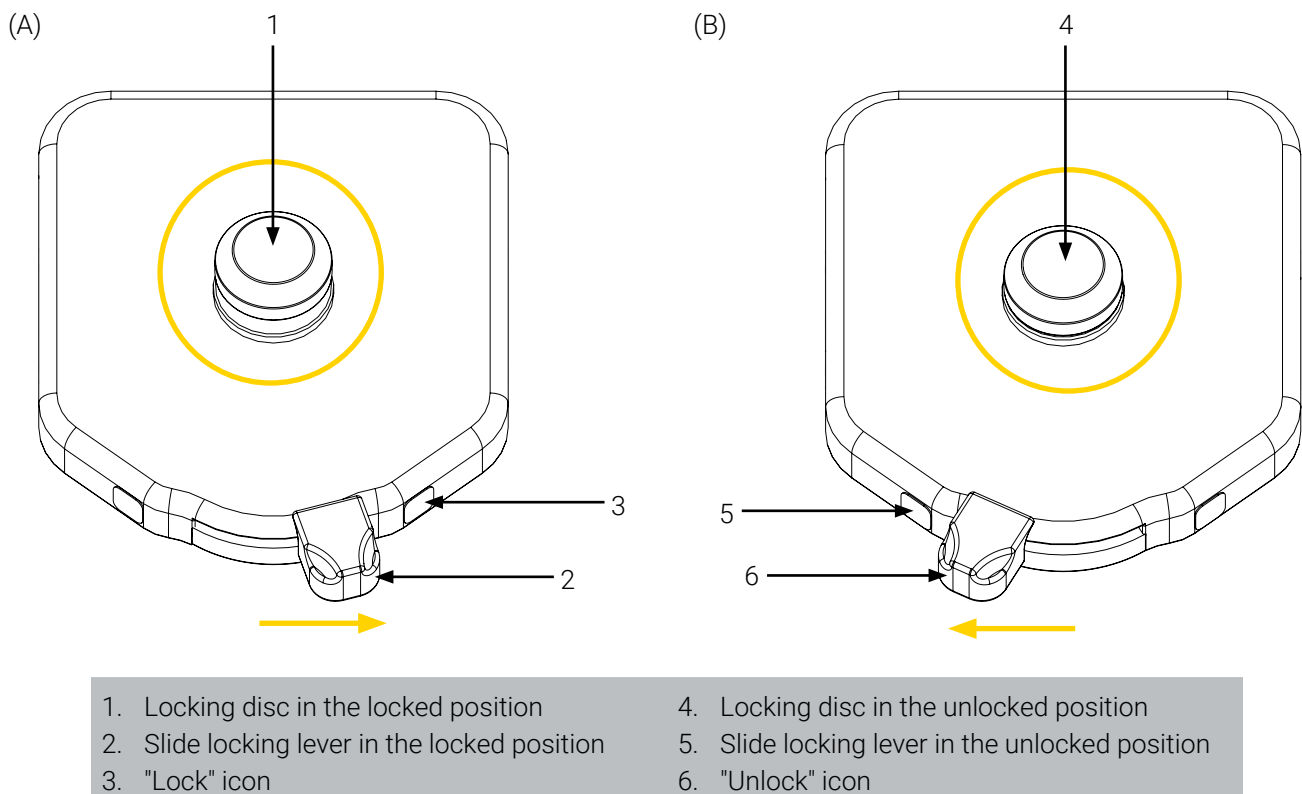

Figure 6: Universal Mounting Base safety mechanism
- **To lock** the mounting system, move the slide locking lever towards the right in the locked position  (Figure 6 A).
- **To unlock** the mounting system, move the slide locking lever towards the left in the unlocked position  (Figure 6 B).